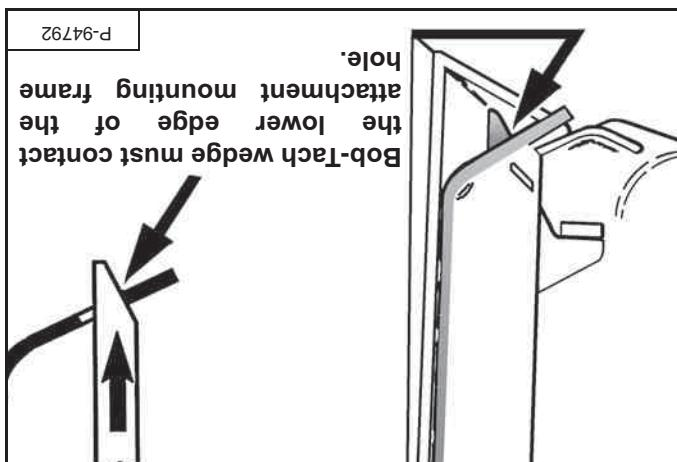
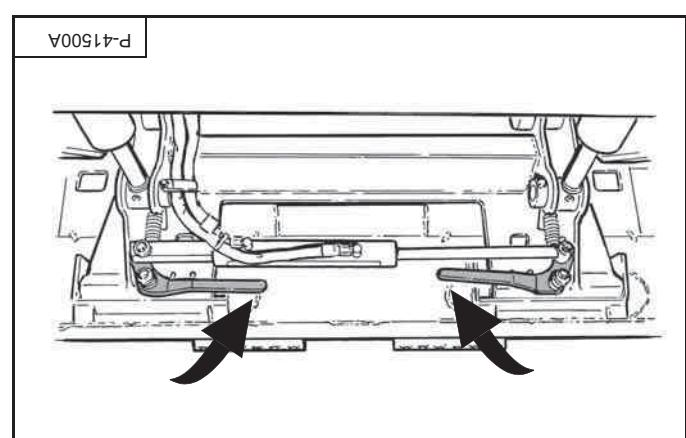
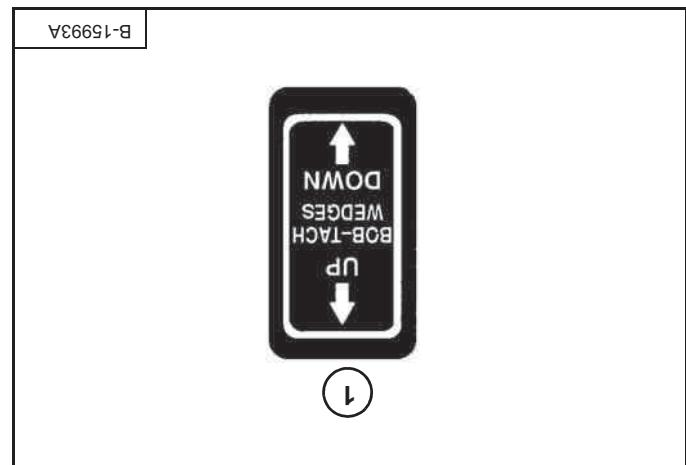

Figure 29
Figure 28
Figure 27
The wedges must extend through the holes in the forestry cutter to the Bob-Tach [Figure 29]. The wedges must extend through the holes in the forestry cutter mounting frame, securely fastening the forestry cutter to the Bob-Tach [Figure 27].
Push and hold the Bob-Tach "WEDGES DOWN" switch (item 1) [Figure 27] until the levers are fully engaged in the locked position [Figure 28] (wedges fully extended through the forestry cutter mounting frame holes).